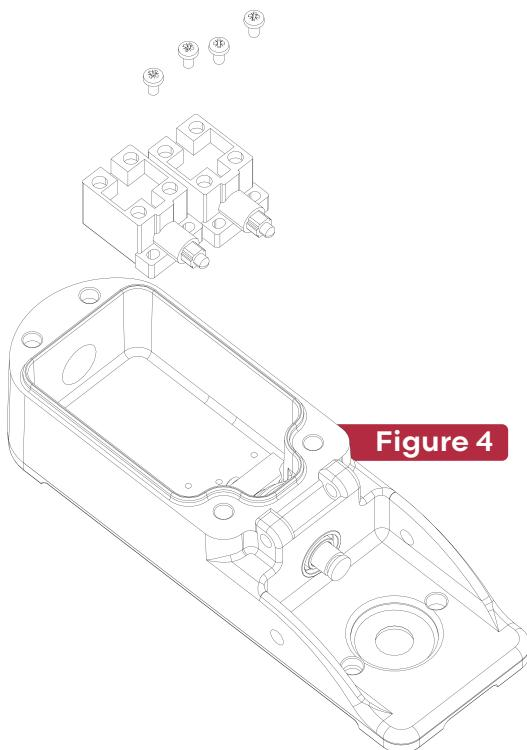

Figure 4
- Mount the switch modules or the analog (potentiometer) block into their designated slots based on the selected configuration (Figure 4).